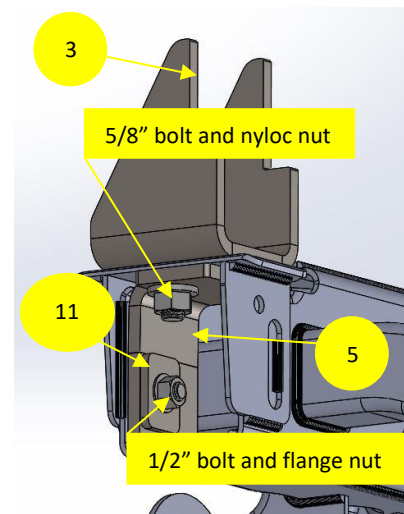

Figure 7
3. Place front support tube (**10**) on top of the left and right front bed mount risers. Line up outer holes in the support tube with holes in the risers and driver and passenger tube supports installed in steps 1 & 2. Fasten support tube to risers using (2) 14-2.0 x 40mm bolts and (2) lock washers into factory clip nut on the driver side and factory weld nut on the passenger side. **HB3200, HB3250** - Use (2) 5/8" x 2" and (2) 5/8" lock nuts to fasten the support tube onto the driver and passenger tube supports. Tighten all bolts.
5. Install driver and passenger center level loks (**7 & 8**) in the front holes on the sides of the frame at the factory 5th wheel bracket(s) using (2) 5/8" x 4-1/2" bolts, (2) remaining reinforcing plates (**11**) and (2) 5/8" lock nuts making certain that level loks are vertically level. Tighten bolts.
6. Place the driver side rear level lok (3) on top of the vehicle frame tube and the level lok mount bracket (5) inside of the vehicle frame tube. Line up holes in the vehicle frame in both the mount bracket and level lok making certain that rear face of level lok is parallel to rear edge of vehicle frame. Use (1) 5/8" x 2" bolt and (1) 5/8" lock nut to fasten the mount bracket and level lok to vehicle frame. Use (1) 1/2" x 1-1/2" bolt, (1) reinforcing plate and (1) 1/2" flange nut to fasten the mount bracket to the vehicle frame. Bolts may need to be left loose to aid in lining up holes. Figures 7 & 8